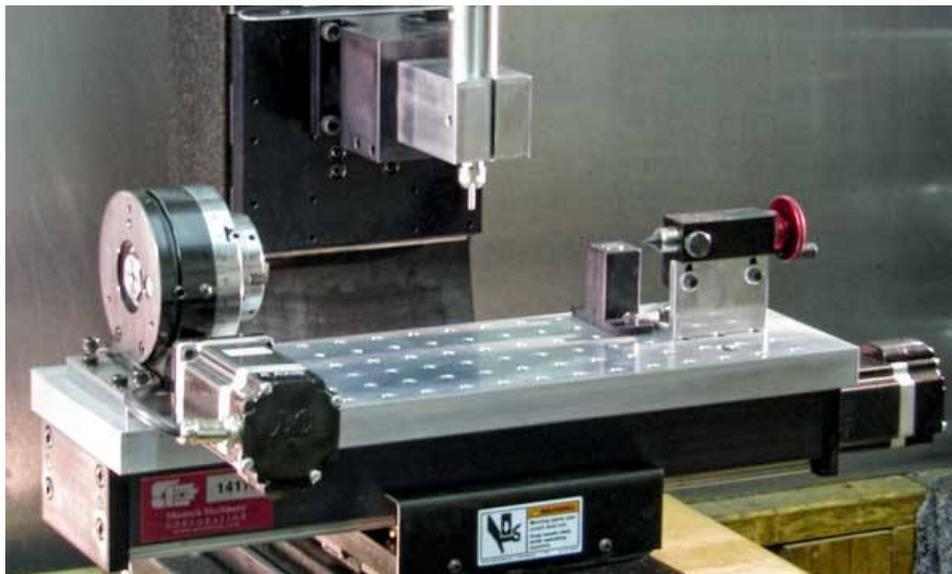

Figure 17
8. To adjust for this (figure 16) you will need to shim between the spindle and the mounting plate as shown in figure 17.